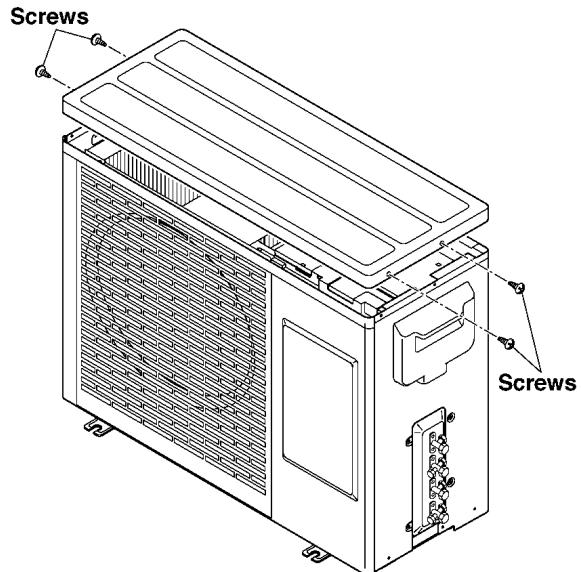

Fig. 20
1. Remove the cabinet top plate. (Four screws) (Fig.20)
1. Remove the cabinet top plate and the front grille. (Fig.20)